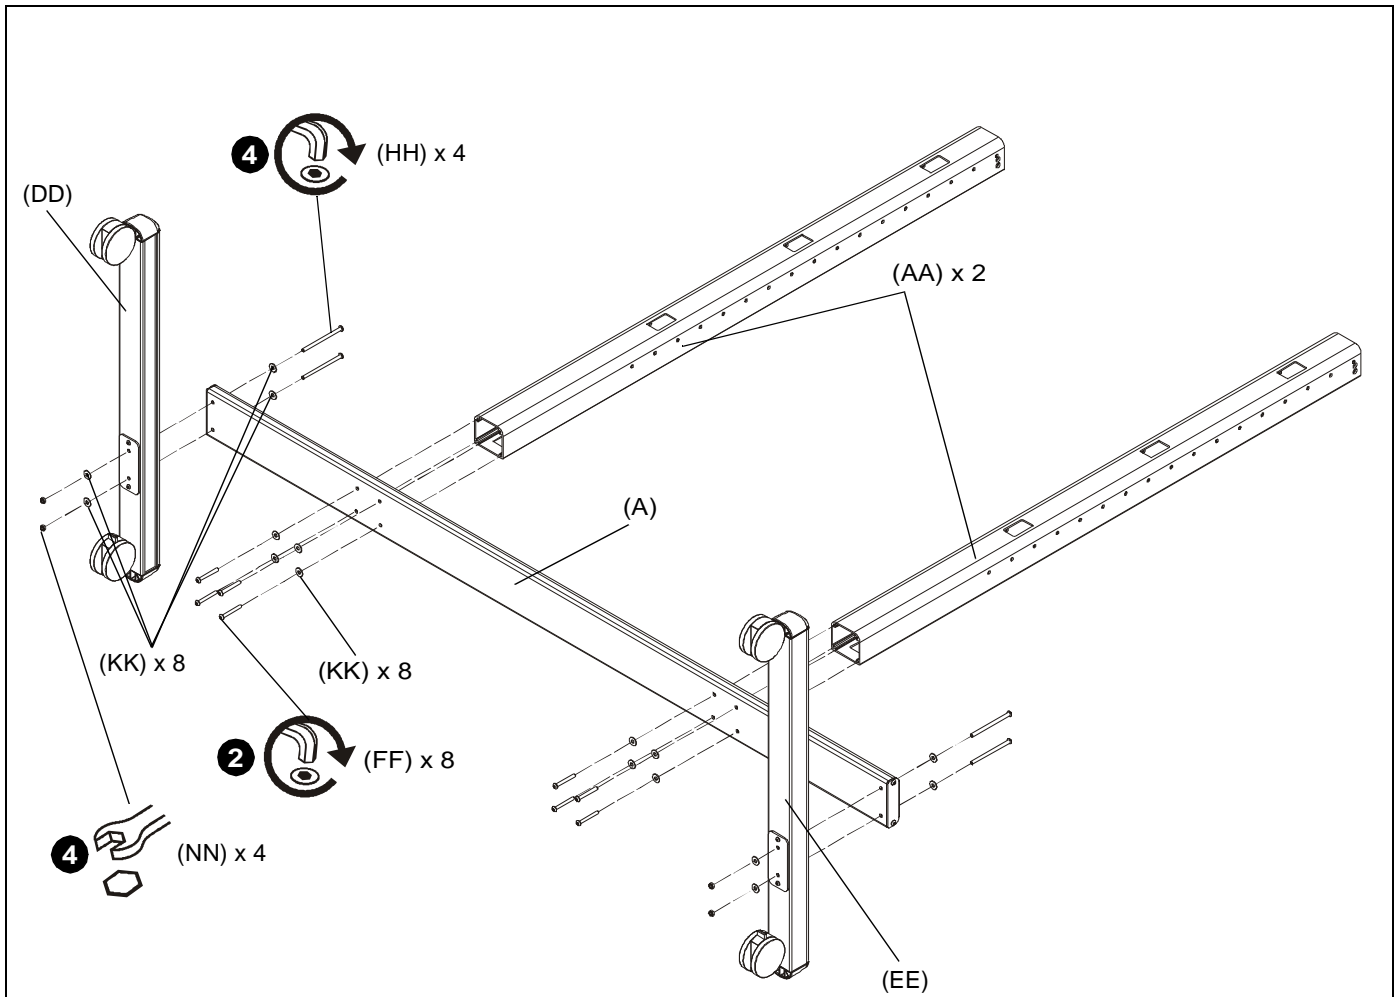

Figure 2
1. Lay two cart array columns (AA) down on a flat surface.
2. Use eight 5/16-18 x 2 1/2" button head cap screws (FF) and eight 5/16" washers (KK) to connect cross bar (A) to columns (AA). (See Figure 2)
4. Use four 5/16-18 x 5" button head cap screws (HH), eight 5/16" washers (KK) and four 5/16-18" lock nuts (NN) to secure right and left legs (DD and EE) to cross bar (A). (See Figure 2)